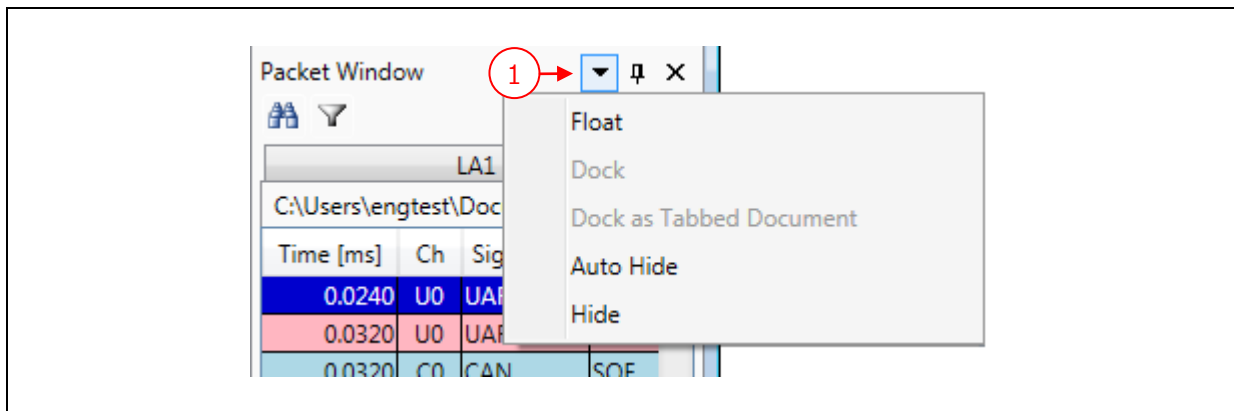

Figure 26
The settings for the Display Packet window and the Trigger Settings window can be specified on the menu displayed by clicking ① in Figure 26.